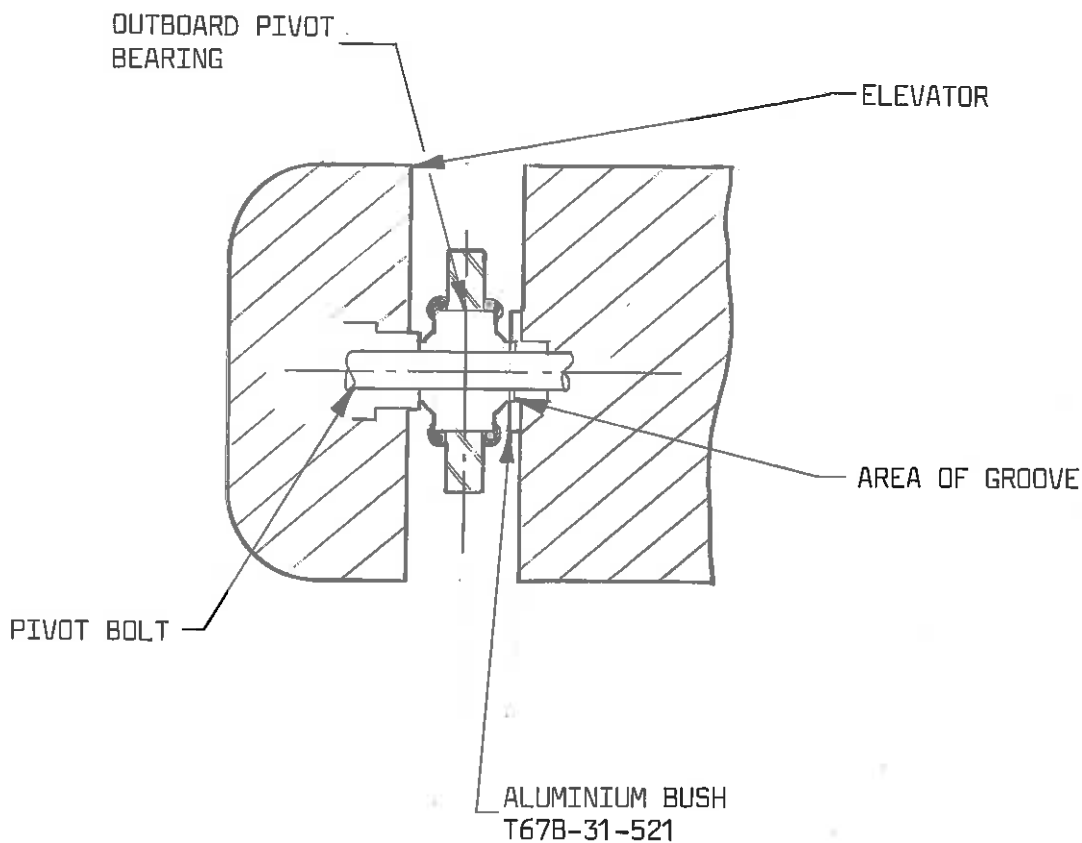

FIG 1
2. Inspect pivot bush for loose head, ref Fig. 1.